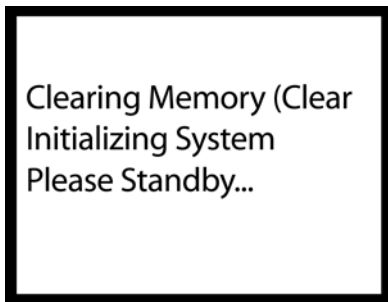

Figure 10: Clearing Memory
1. Press 1 to clear the controller's RAM. The LCD will change to show the memory is being cleared (see Figure 10 on page 9). Once the controller's RAM has been cleared, the unit is ready for use. The LCD will rotate between the Initialization Warning and EntraGuard Default screens until a Total Update from *Doors* has been performed on the unit.